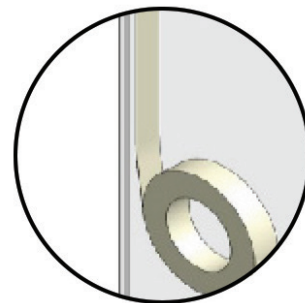

FIG 14.
- Hold glass to glass join in place with insulation/gaffa tape (**FIG 14**).